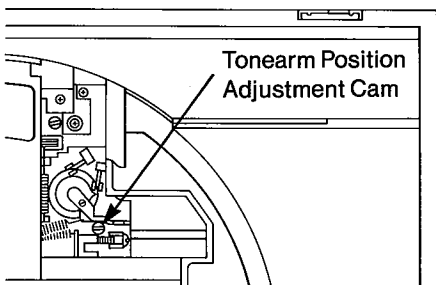

Fig. 3
3. Press \triangleleft button on the control panel to shift the arm to the place where the tonearm position adjustment cam can be observed. (Fig. 3)
4. Adjust the cam, so that the tonearm becomes perpendicular to the rear wall of the cabinet. (Fig. 3)